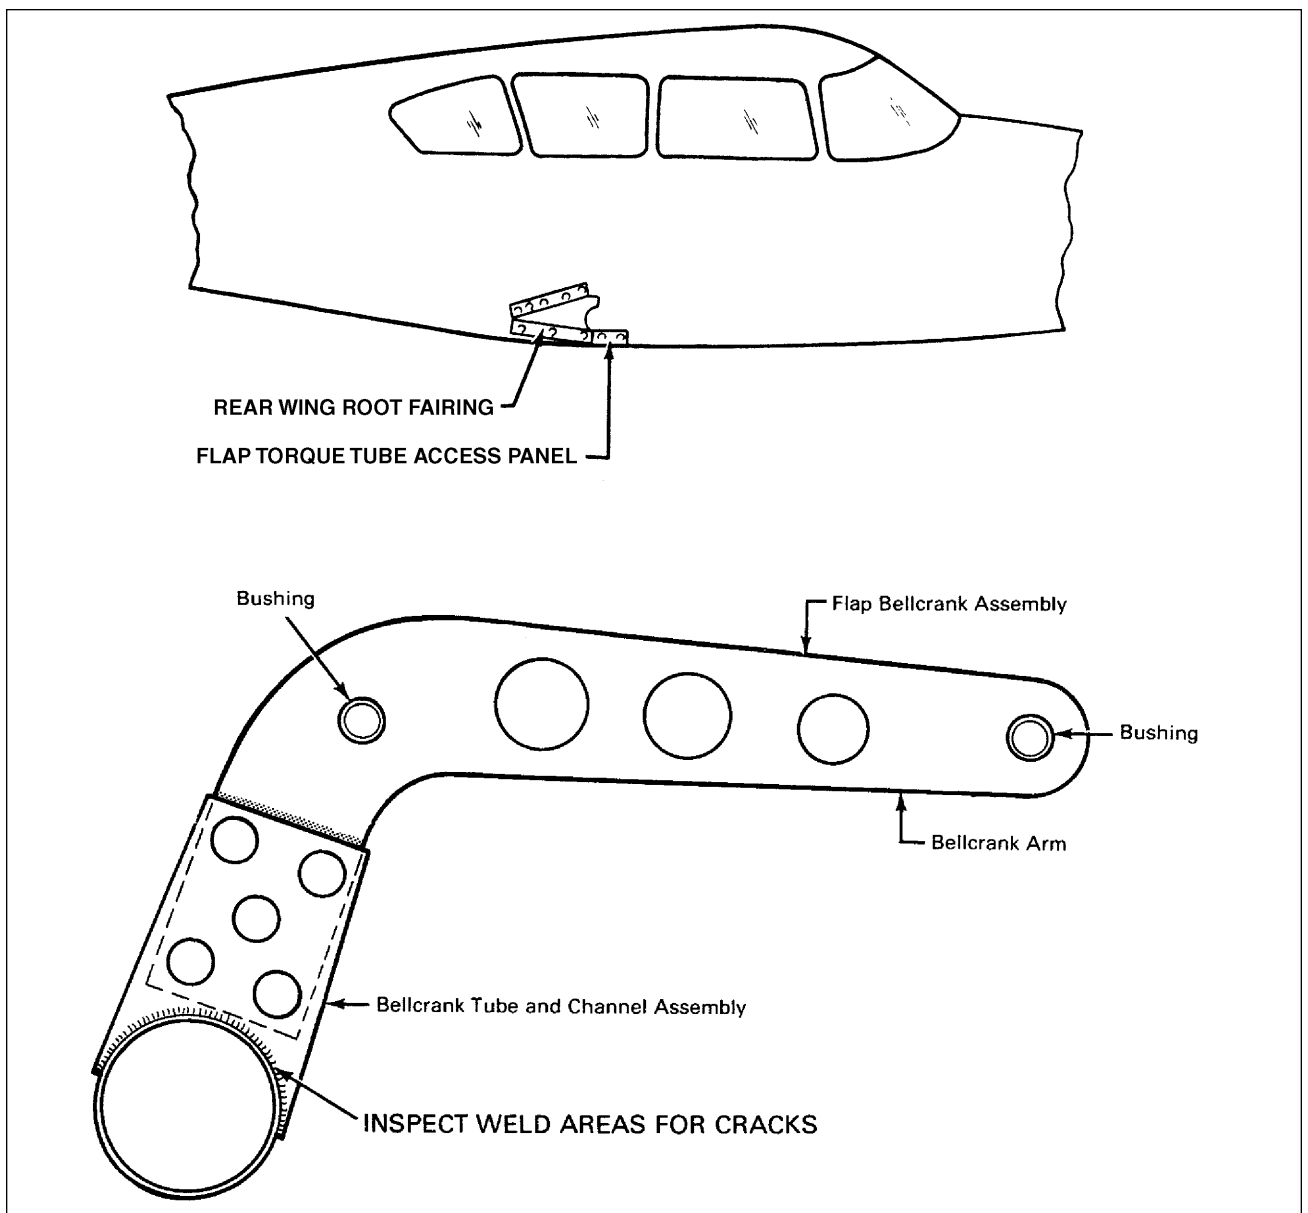

Figure 3-7. Flap Bellcrank Inspection
- (b) Remove the right rear wing root fairings and the right flap torque tube access panels (see Figure 3-7).